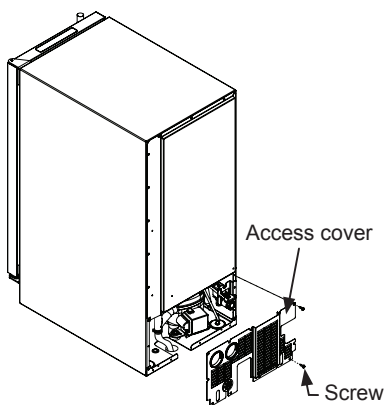

Figure 3
6. Remove the access cover from the rear of the ice machine (Figure 3).